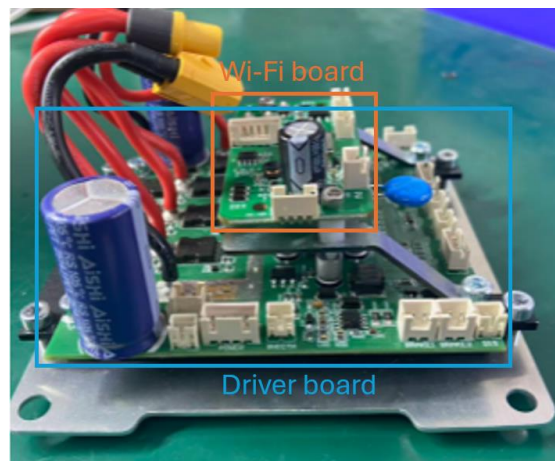

Figure 20 Wi-Fi Board suspended above the Driver Board
- **Wi-Fi Board:** Suspended and elevated directly above the Driver Board, rigidly secured via standoff supports as illustrated in figure 20.